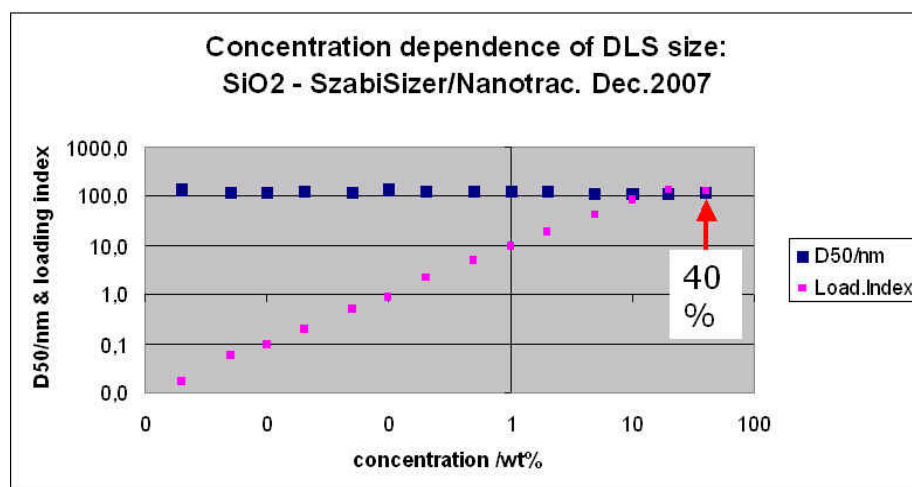

Fig. 6: Due to the lack of multiple scattering a large concentration range is guaranteed
2. Therefore, highest concentration range – example see Fig. 6